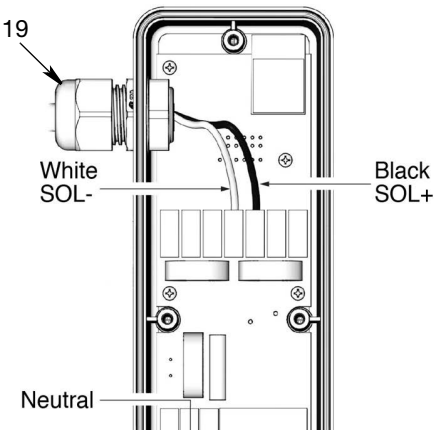

FIG. 5
- Inside PAC electronics enclosure (2), disconnect neutral (white) and line (black) wires from SOL - (white) and SOL + (black) from the terminal block (FIG. 5).
- Loosen cord grip (19) and completely remove cable (FIG. 5).